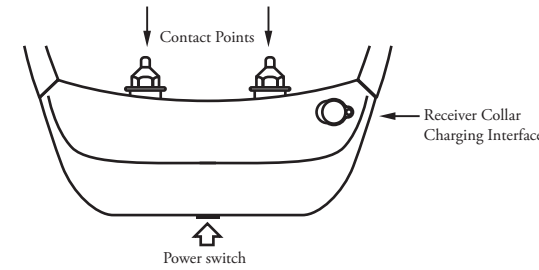

figure 2 – Receiver Collar Power Switch and Charging Interface
1. Press the Power Switch (figure 2) for three seconds to turn on the Receiver Collar (the red light will go solid and begin to blink every four seconds if sufficiently charged)